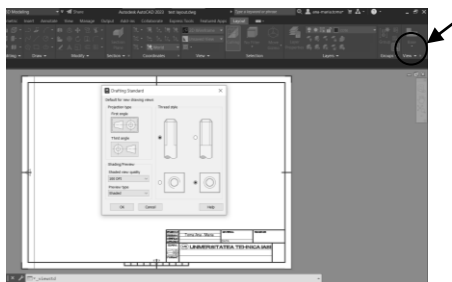

Figure 10 Drafting Standard
- **Step 4:** Next step is the selection of Drafting Standard to First Angle, which is the European standard of Projection (from the right corner of the screen, press VIEWSTD, like shown in Figure 10)